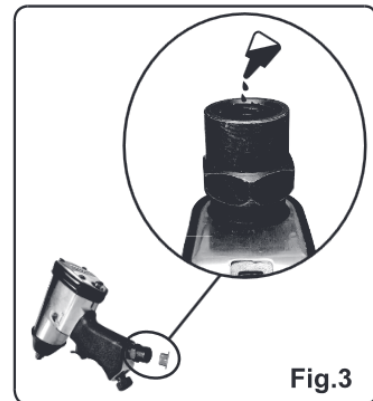

Fig.3
- All compressed air contains moisture and other contaminants that can harm the internal components of the tool. An air filter will remove most of these and significantly extend the life of the tool. Ensure the in-line oiler has sufficient oil. If an in-line oiler is not available, place 2 drops of oil into the air inlet of the tool at the beginning of each workday. More than this will be expelled from the exhaust of the tool during using (Fig. 3).